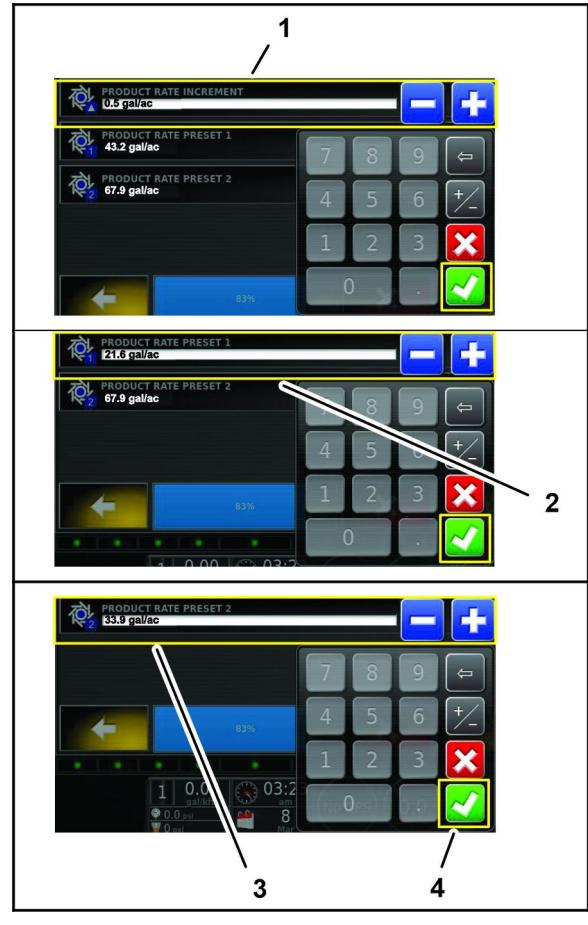

Figure 120
- 10. Use the on-screen keypad to type a rate by which you raise or lower application preset rates 1 and 2, and press the confirm icon (Figure 120).
- 12. Use the on-screen keypad to type the application rate for application preset rate 1, and press the confirm icon (Figure 120).
- 14. Use the on-screen keypad to type the application rate for application preset rate 2, and press the confirm icon (Figure 120).